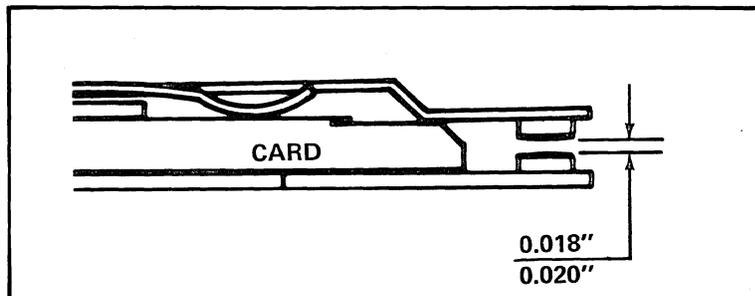

Figure 6-15 "B" Switch Adjustment
- (1) Check "B" type switch gap with card fully engaged between interrupter contacts. Gap should be 0.018" - 0.020". See Figure 6-15 Use 0.020" round gauge (see Table 7-1).